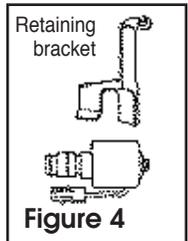

Figure 4
**Note: Do Not reuse Retaining Bracket shown in Figure 4**
**7. To Install:** Before attempting to install the EPC solenoid grease the snout to prevent O-rings from rolling off. Install EPC with Teckpak's retaining bracket (Figure 4). Reuse the OEM bolt. Connect vehicle wiring harness to the new 76923 EPC Solenoid.